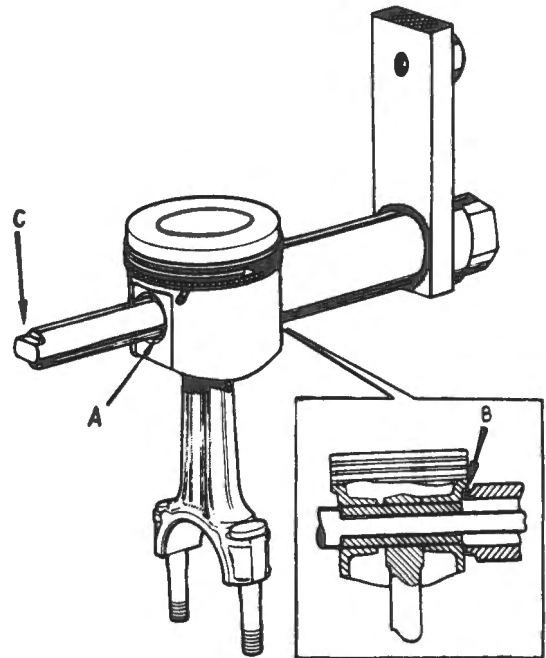

Fig. E-39
- 2 Remove the screw from the tool and push it through the gudgeon pin until the shoulder of the large diameter contacts the end of the gudgeon pin. Refer 'A' Fig. E-39.
NOTE: Ensure that the flat section of the piston is squarely mounted against the tool post with the post cutaway positioned directly below the ring land. Refer 'B', Fig. E-39.
NOTE: Support the connecting rod during the operation to prevent it falling when the pin is removed. Should the screw begin rotating when turning the nut hold the end 'C' (Fig. E-39) with a spanner.
- 3 Position the tool screw through the gudgeon pin, connecting rod and tool and fit the nut and thrust bearing assembly to the screw. Refer Fig. E-39.